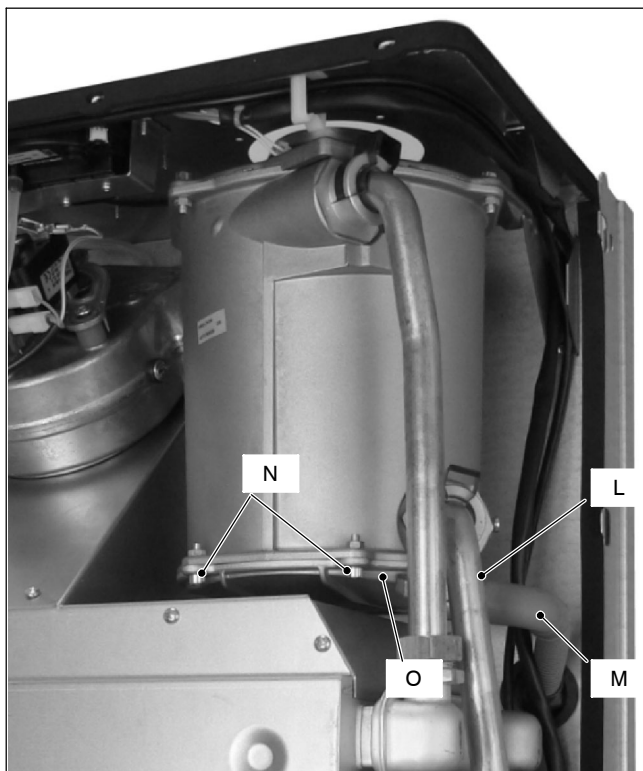

Fig. 3
- 1 Using pliers, remove the spring L moving it to wards right and disconnect the rubber pipe M (Fig. 3).
- 2 Unscrewing the screws N (Fig. 3).
- 3 Remove the condensing heat exchange lid O (Fig. 3) moving towards the front of the boiler.